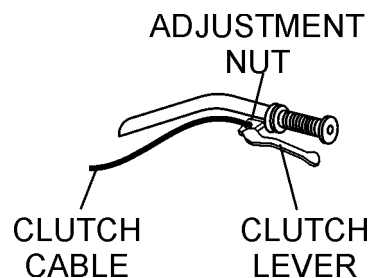

Figure 48. Hand Clutch Adjustment
2. Trowels manufactured prior to June of 1982 require that the distance from the end of the adjusting bolt and the fixture arm must be 22 mm (7/8 in.) (Figure 48). Conversely, trowels manufactured after June of 1982 require that the distance from the end of the adjusting bolt and the fixture arm must be 13 mm (1/2 in.).
3. Un-screw the locking bolts on the adjustment tool, and place the trowel arm into the adjustment fixture channel as shown in Figure 48. A **thin shim** may be required to cover the blade holes on the trowel arm. Make sure to align the trowel adjustment bolt with the fixture adjustment bolt.
The easiest and most simple adjustment is to adjust the clutch cable housing using the adjustment nut (Figure 48) located on the clutch lever. Rotating the nut provides either more or less (depending upon the direction of rotation) clutch engagement.